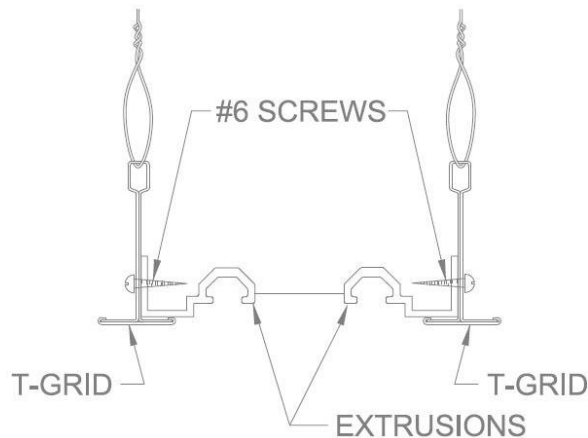

FIGURE 1
1. Position aluminum extrusions on the inside lip of the "T" grid as shown and attach with #6 self-drilling screws (included) 18" on center. **See Figure 1.**